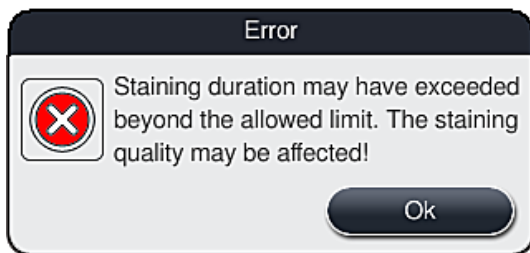

Fig. 106
1. After confirming this message, the user is informed that the staining periods may have been exceeded, i.e. individual racks have already spent too much time in a reagent under certain circumstances or in a critical station, which can impede the staining quality. Confirm this message (→ "Fig. 106") by pressing the "OK" button to resume.